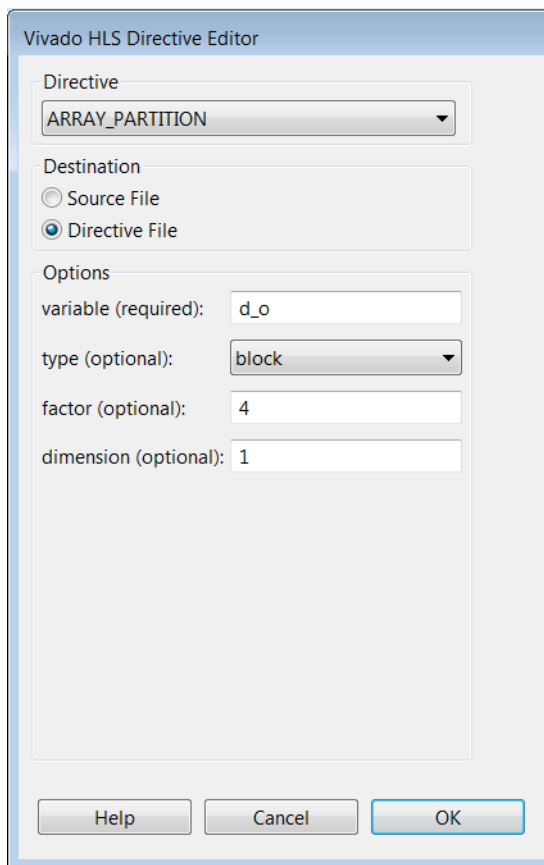

Figure 4-21: Directive Editor for Partitioning Array d_o
- d. With the Vivado HLS Directive Editor as shown in Figure 4-21, click **OK**.